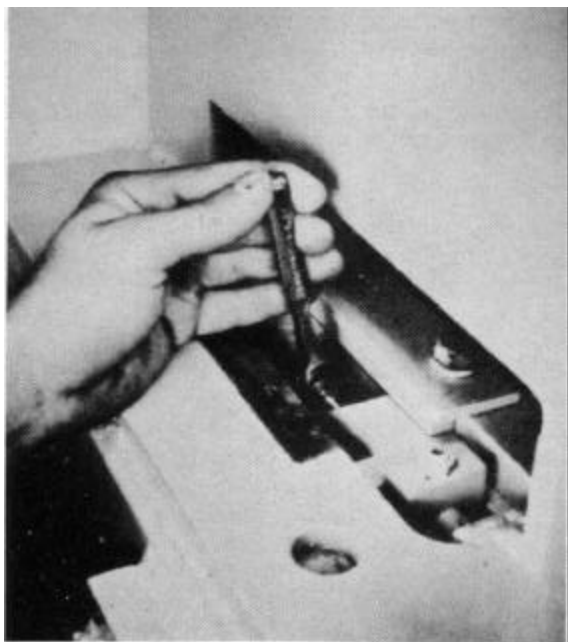

Figure 5-103
Remove the holddown plates (Fig. 5-101), dowel pins and chain tension blocks (Fig. 5-102, Fig. 5-103). (Pg. 4-36. items 5 and 6).
5. Chain adjustment is accomplished with a 1/4" drive ratchet wrench with a 5/16" socket and a 5116" hexagonal insert, one inch long. Adjust both chain ends evenly until snug (Fig. 5-103).